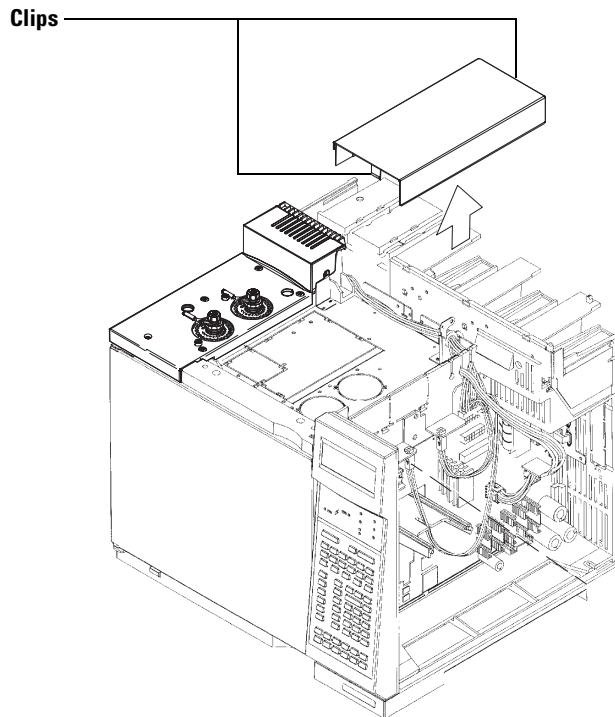

Figure 2 Removing the top electronic cover (6890)
- **Early 6890 models:** Raise the gray plastic top cover (with the holes and ventilation slots) to the vertical position. The hinge is a metal bracket attached to the oven top. Pull the clip at its top toward you to release the hinge pin. Push the pin to the left to release the cover. Raise the cover and remove it. Remove the top electronics cover. Push the clips underneath the cover (shown in Figure 2) toward the center to disengage them.